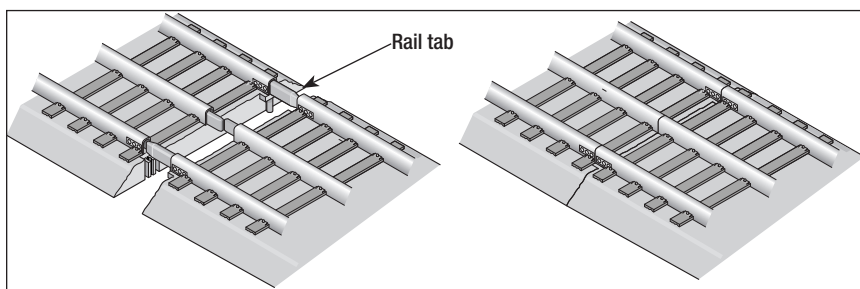

Figure 2. Joining the track sections
3. Press the sections together until the interlocking roadbed snaps into place. Refer to Figure 2.